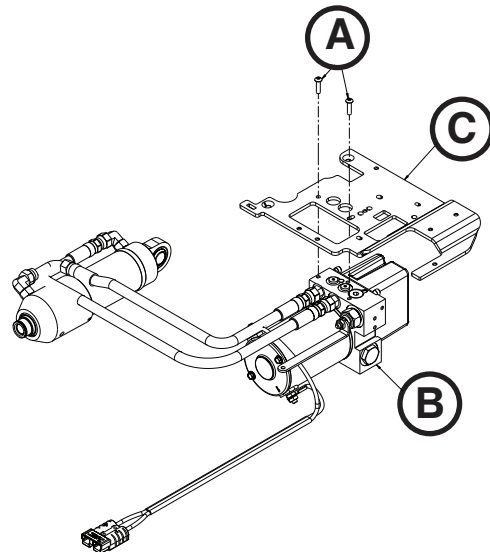

Figure 70
6. Using a T25 Torx driver, remove the two screws (A) that secure the hydraulic assembly (B) to the wing plate, left (C) (Figure 70).